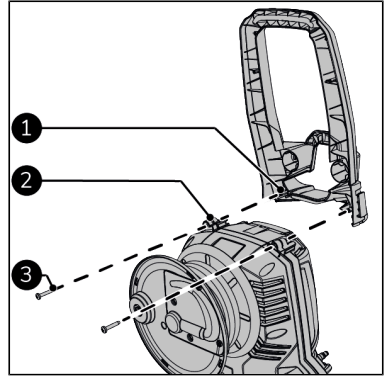

Figure 27.
1. Attach the handle (Figure 27, pos. 1) to the main body (Figure 27, pos. 2) with both ST4.8x24 screws (Figure 27, pos. 3).